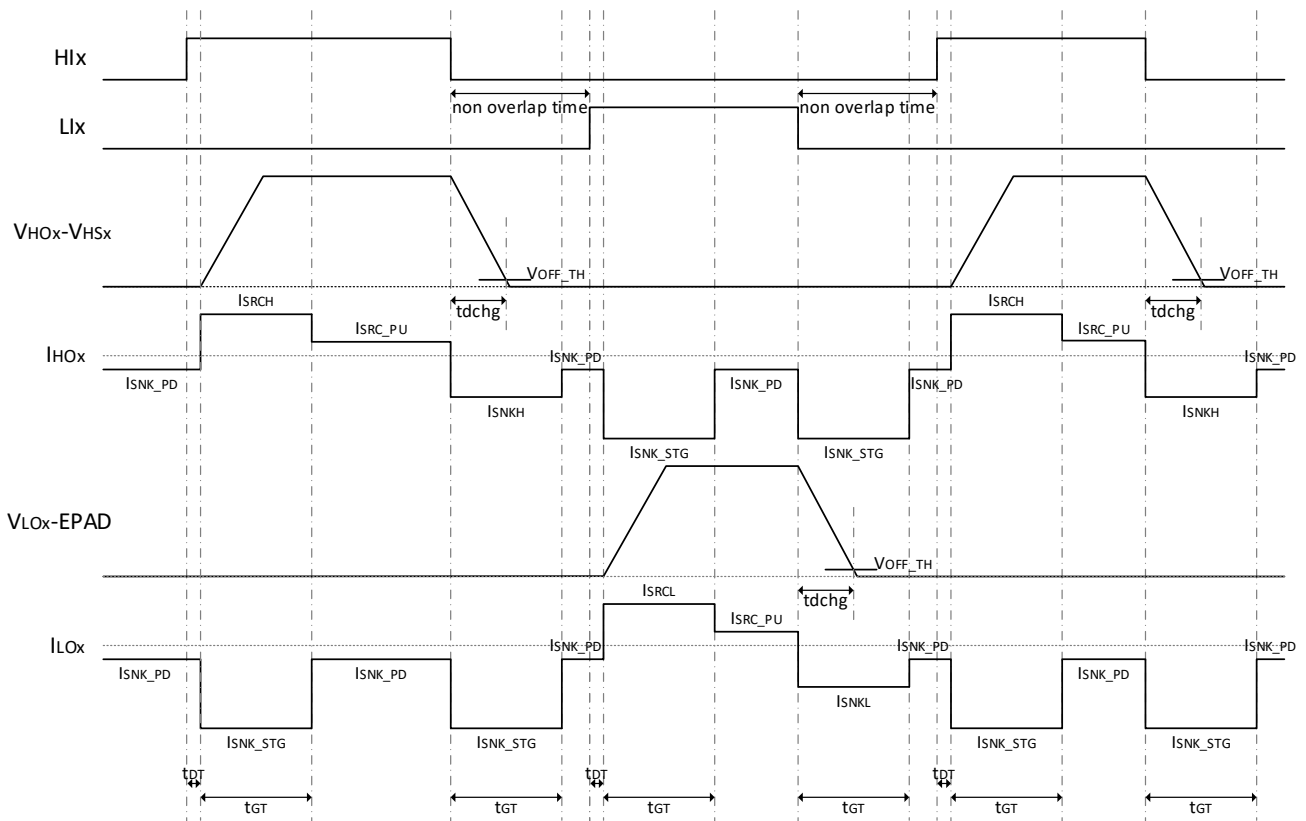

Figure 6.4-5 Gate Drive Timing Diagram with DIS\_SADT=1 if the HI/LI Inserted Dead Time is Longer than Gate Transition Time
**Note:** The inserted dead time should be shorter than the tGT setting in order to properly drive the MOSFETs. The duration of driver peak source/sink current is terminated after reaching the full tGT duration. Refer to Figure 6.4-5. And the inserted dead time must be longer than the MOSFET discharge time “tdchg” to avoid the shoot through current of the half-bridge MOSFET.
Figure 6.4-5 shows the gate drive timing diagram with DIS\_SADT=1b if the Hlx/Llx (x=A,B,C) inserted dead time is longer than maximum gate transition time (tGT). This case means: